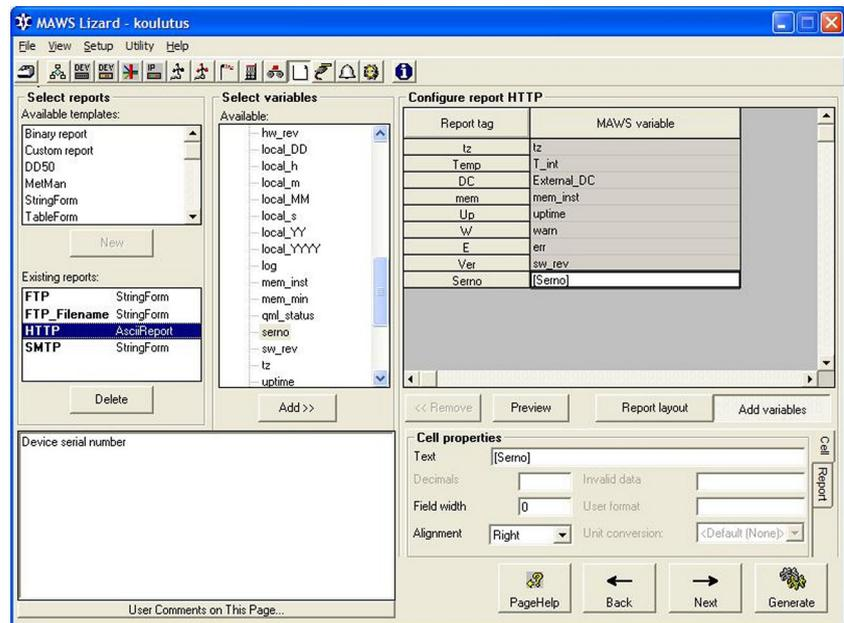

Figure 115 Linking Lizard variables to Custom Report
7. Add your variables by selecting them from the **Select variables** list and dragging them to the corresponding cells in the **MAWS variables** list. Alternatively, you can select the variable and the destination cell in the list and then click **Add**. After you have linked variables to your custom template, it should look similar to the one shown in Figure 115 on page 257.